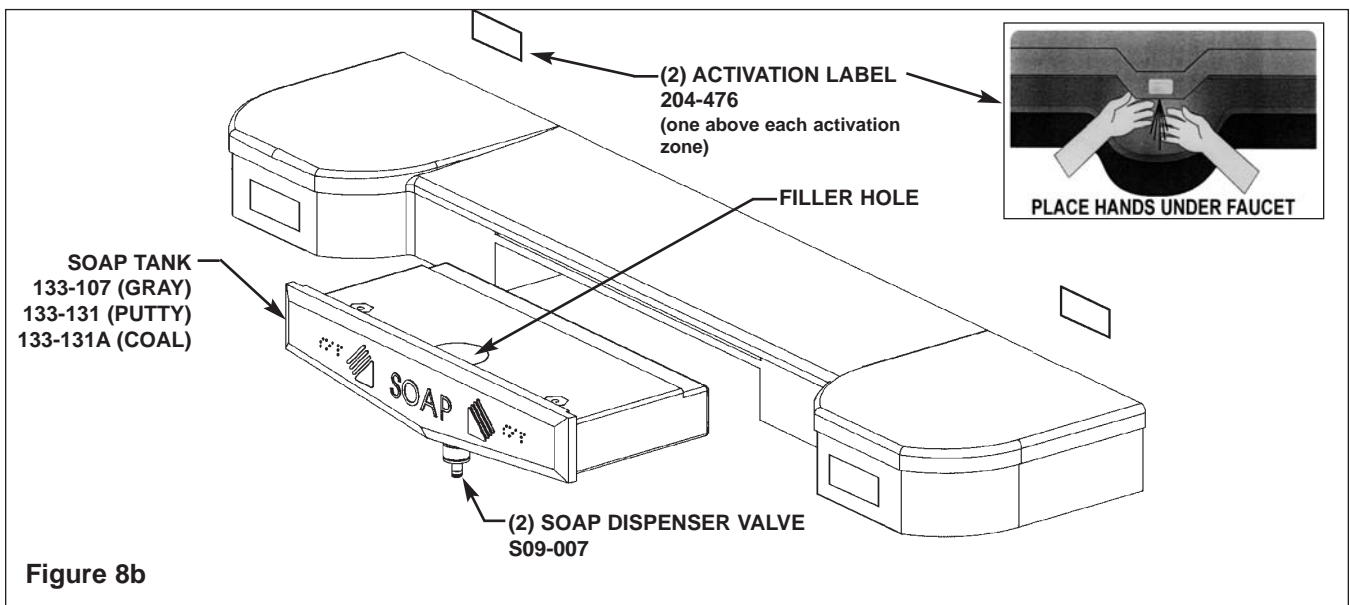

Figure 8b
3. Pour the soap into the soap tank's filler hole (see Figure 8b).